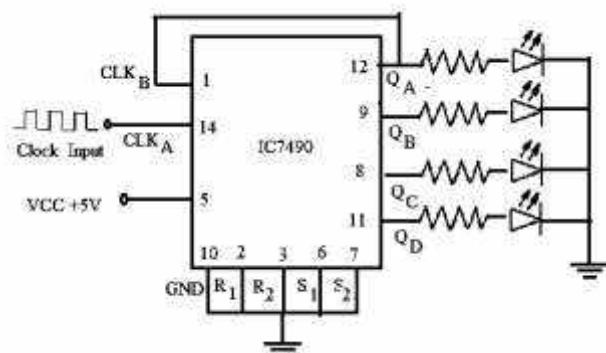

Fig 17.3 Decade Counter using 7490
2. Make the connection for given circuit diagram.(figure 17.3)